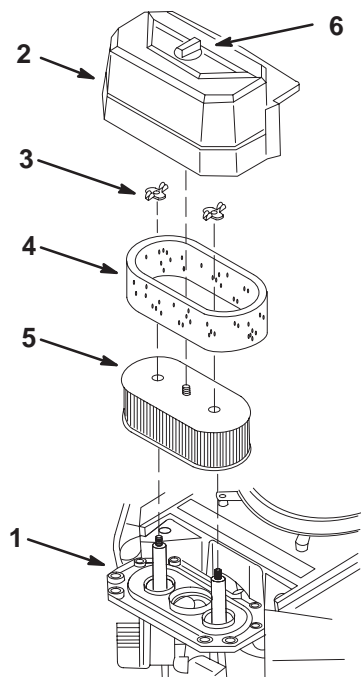

Figure 32
3. Clean around the air cleaner to prevent dirt from getting into the engine and causing damage (Fig. 32).
4. Unscrew the cover knob and remove the air cleaner cover (Fig. 32).
5. Unscrew the 2 wing nuts and remove the air cleaner assembly (Fig. 32).
6. **Carefully** pull the foam element off the paper element (Fig. 32).
1. Lightly tap the element on a flat surface to remove dust and dirt (Fig. 32).
1. Carefully slide the foam element onto the paper air cleaner element (Fig. 32).
2. Place the air cleaner assembly onto the air cleaner base and secure it with the 2 wing nuts (Fig. 32).
3. Place the air cleaner cover into position and tighten the cover knob (Fig. 32).